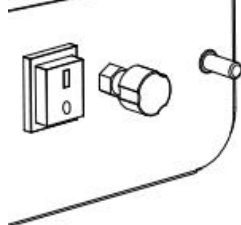

Figure.3
- f. Regulate the flame and output by turning the adjustable knob anticlockwise to increase or clockwise to decrease. (Figure 3).